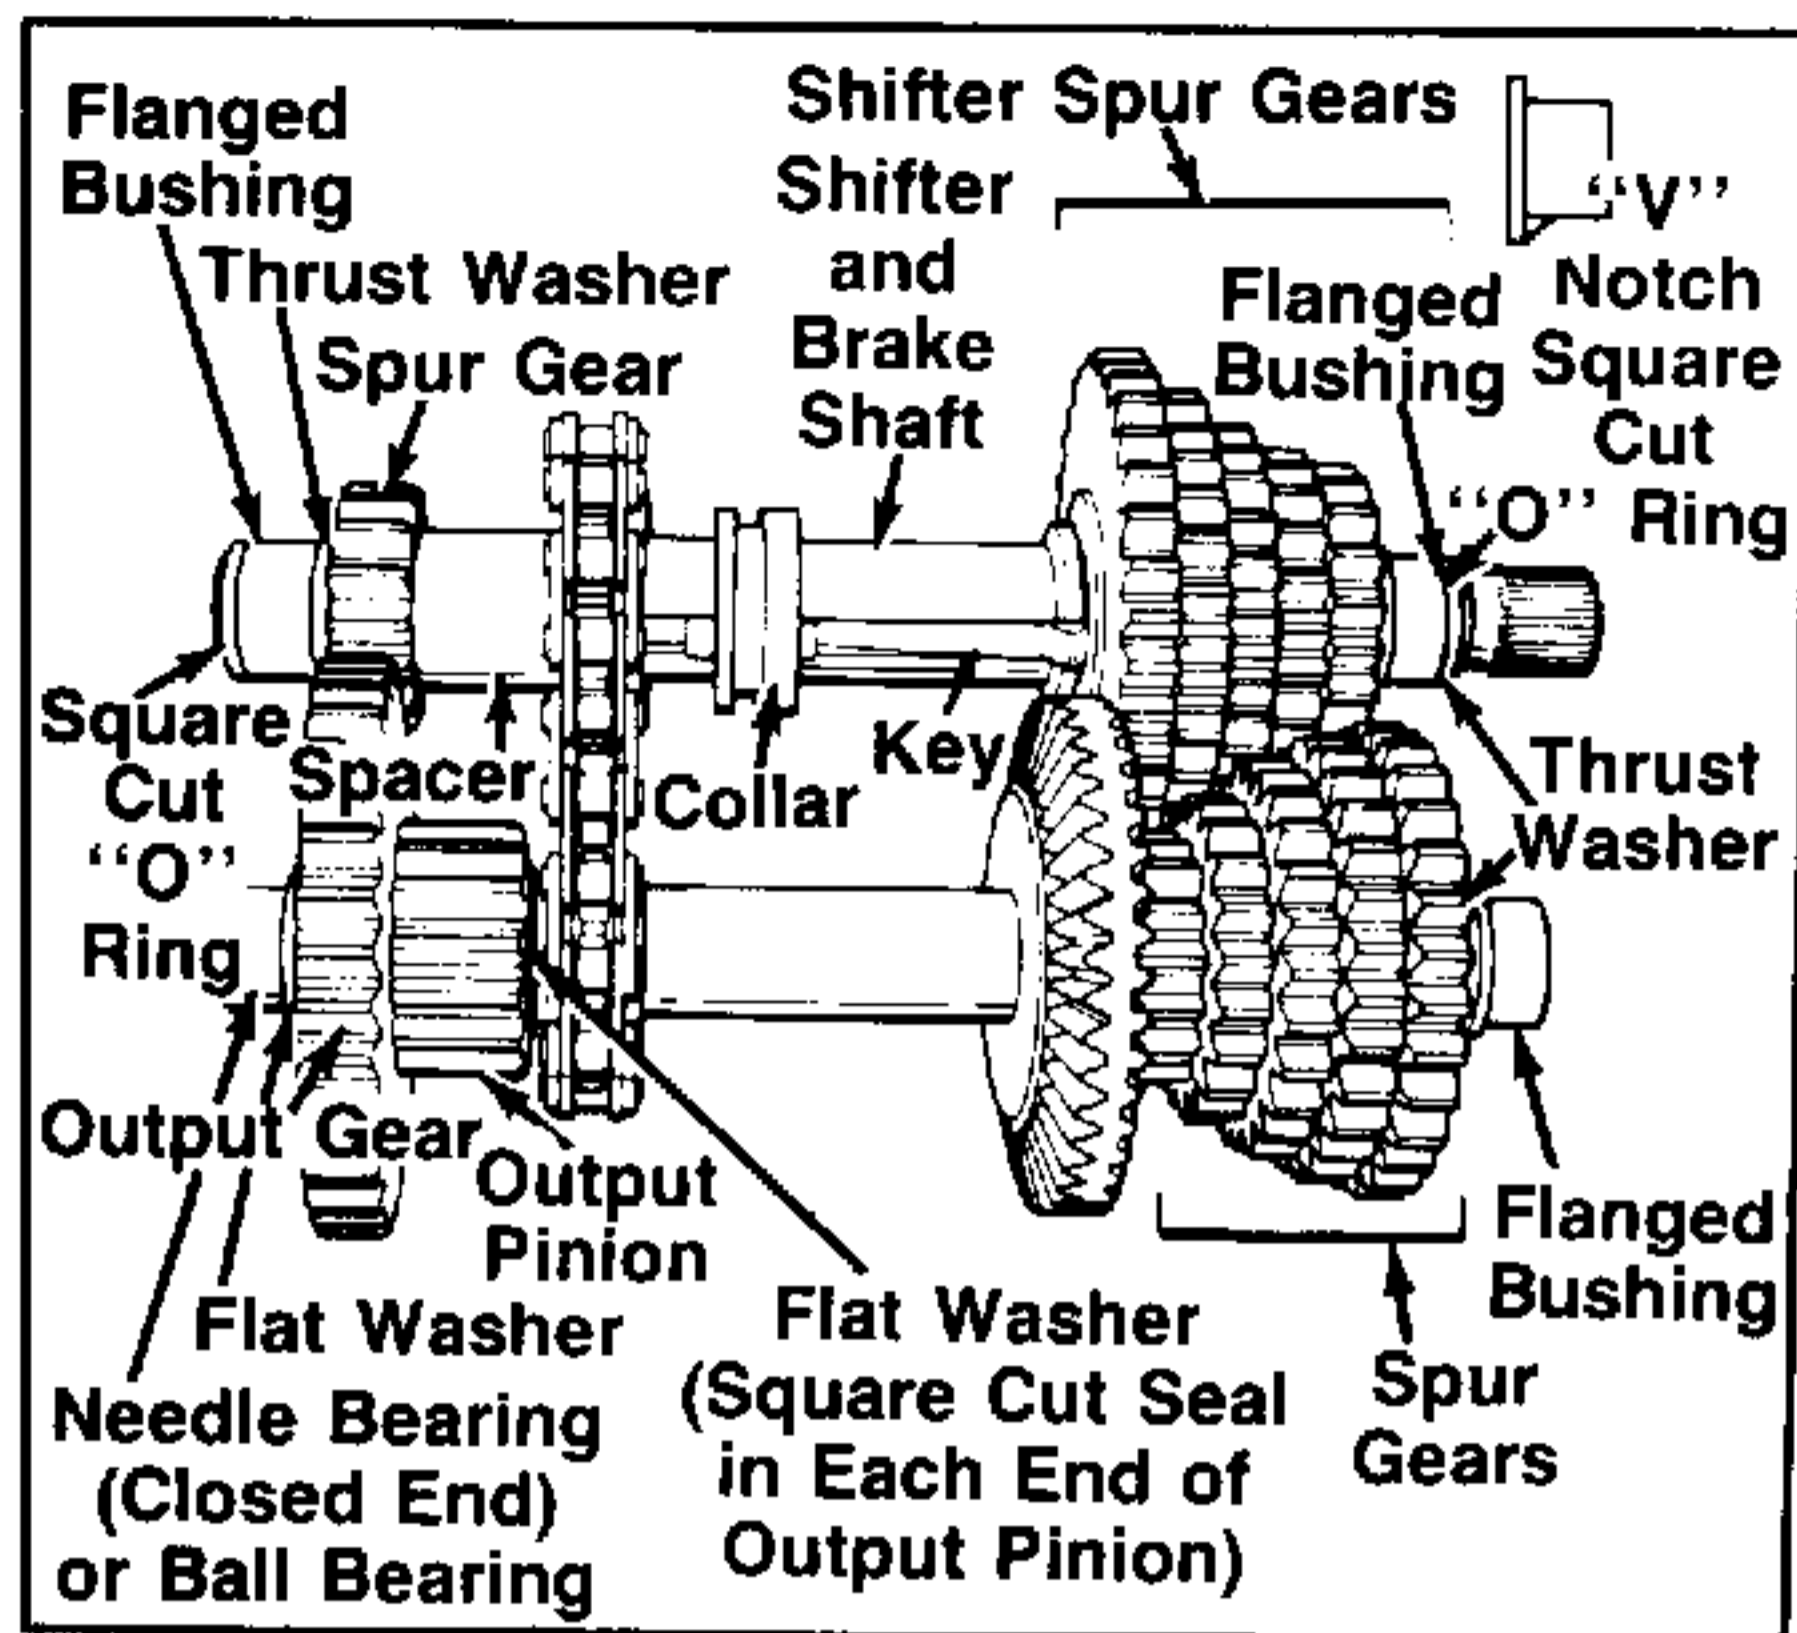

FIGURE 16.
NOTE: Before disassembly, observe how "V" notches on the flanged bushings fit into recess "V" of case. See figure 16.
- Remove the needle bearing (closed end) flat washers (2), output gear and output pinion, and 3 square cut seals from the countershaft. (2 seals in output pinion—1 in needle bearing cap). "O" rings in countershaft are larger than those on brake shaft ends. Always replace with new seals whenever removed. See figure 16.